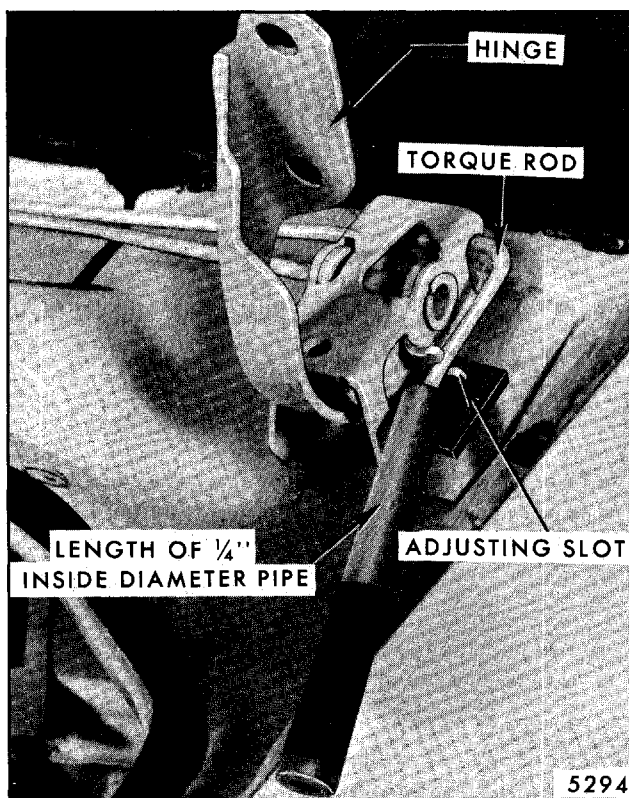

Fig. 7-50-Rear Compartment Torque Rod Adjustment - "F" Styles
- e. On "F" styles, use a length of 1/4" inside diameter heavy wall pipe (Fig. 7-50).